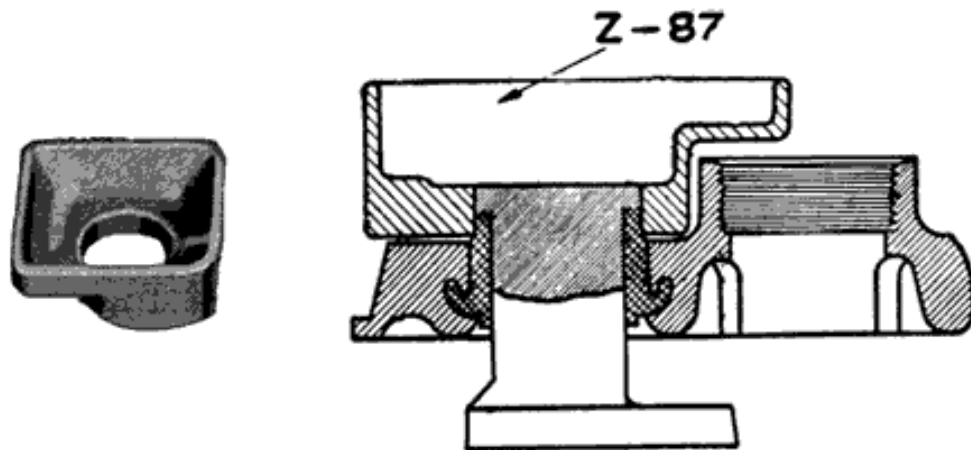

Fig. 283. Willard Burning Form Z-87, and How it Is Used
8. Place Willard burning form Z-87 (Fig. 283) over the post and cover insert and burn the post to the insert.